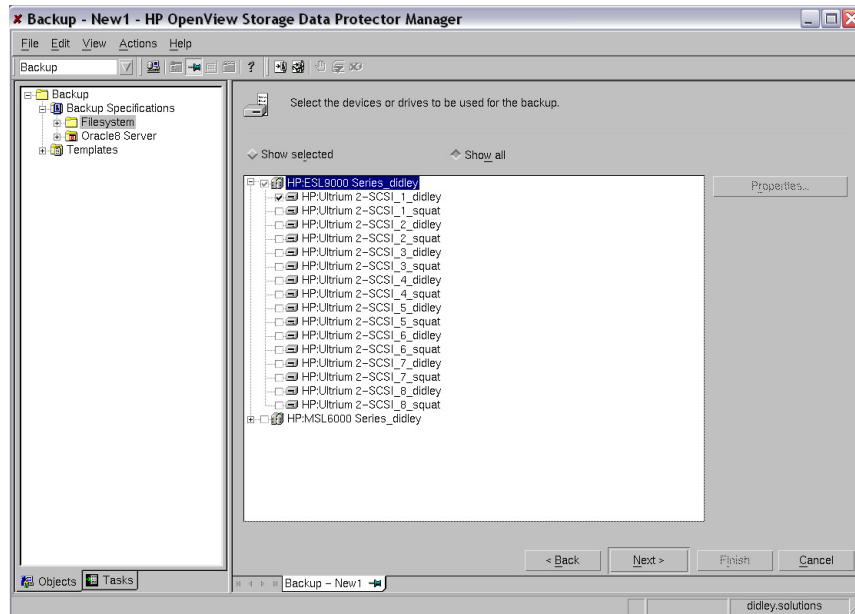

Figure 14: Selecting a tape drive for the backup
- Select the tape drive to be used for backup. Be sure to select a drive that resides on the backup server, and not the application server (see Figure 14).